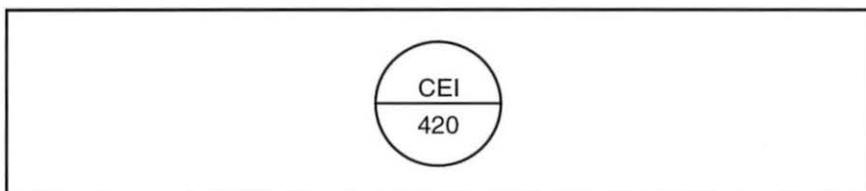

Figure 51. Instrument Tag
9. Determine the measured variable indicated in the instrument tag in figure 51.